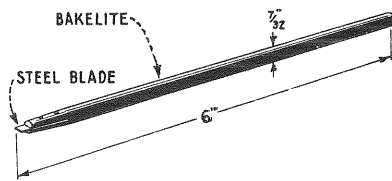

Figure 13—Dimensions of the insulated screwdriver
- (a) Procure a non-metallic screwdriver (See Figure 13).
- A non-metallic screwdriver. Such a screwdriver is shown in Figure 13.